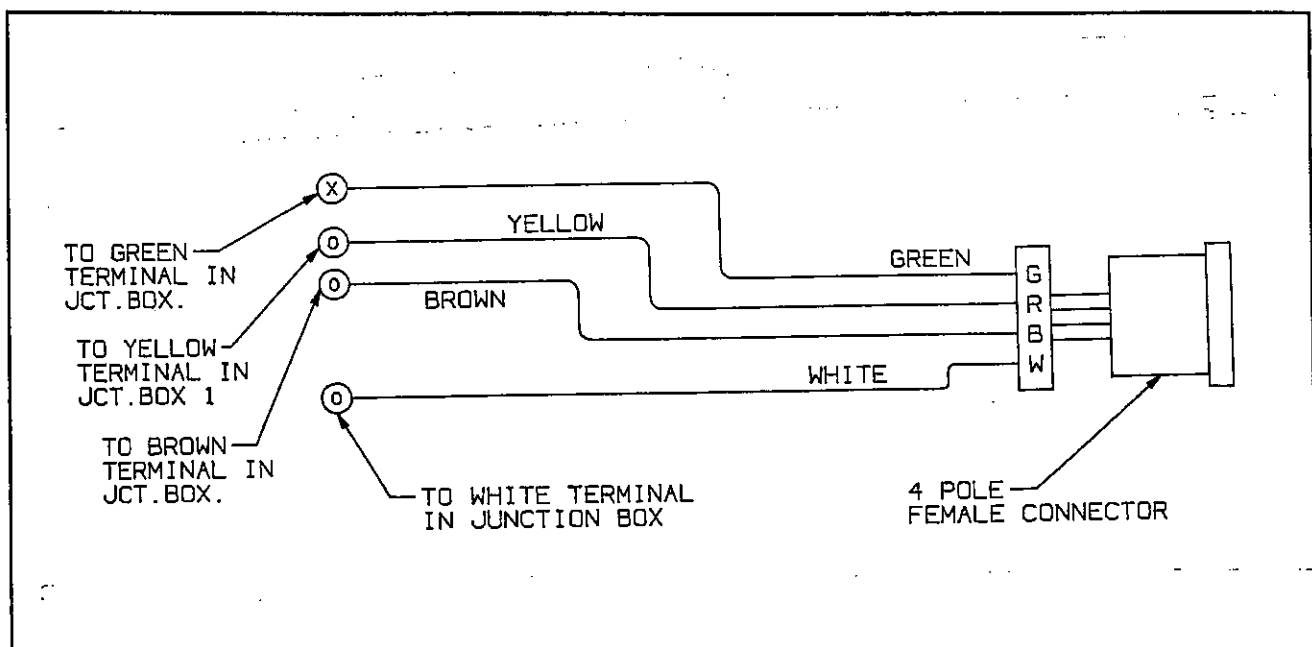

Figure 4-6 Four Pole Connector Wiring Schematic
b. Wire 4 pole plug female inner core with 120" wires, (insulation stripped 3/8" on one end) as follows: (See Figure 4-6 on following page)